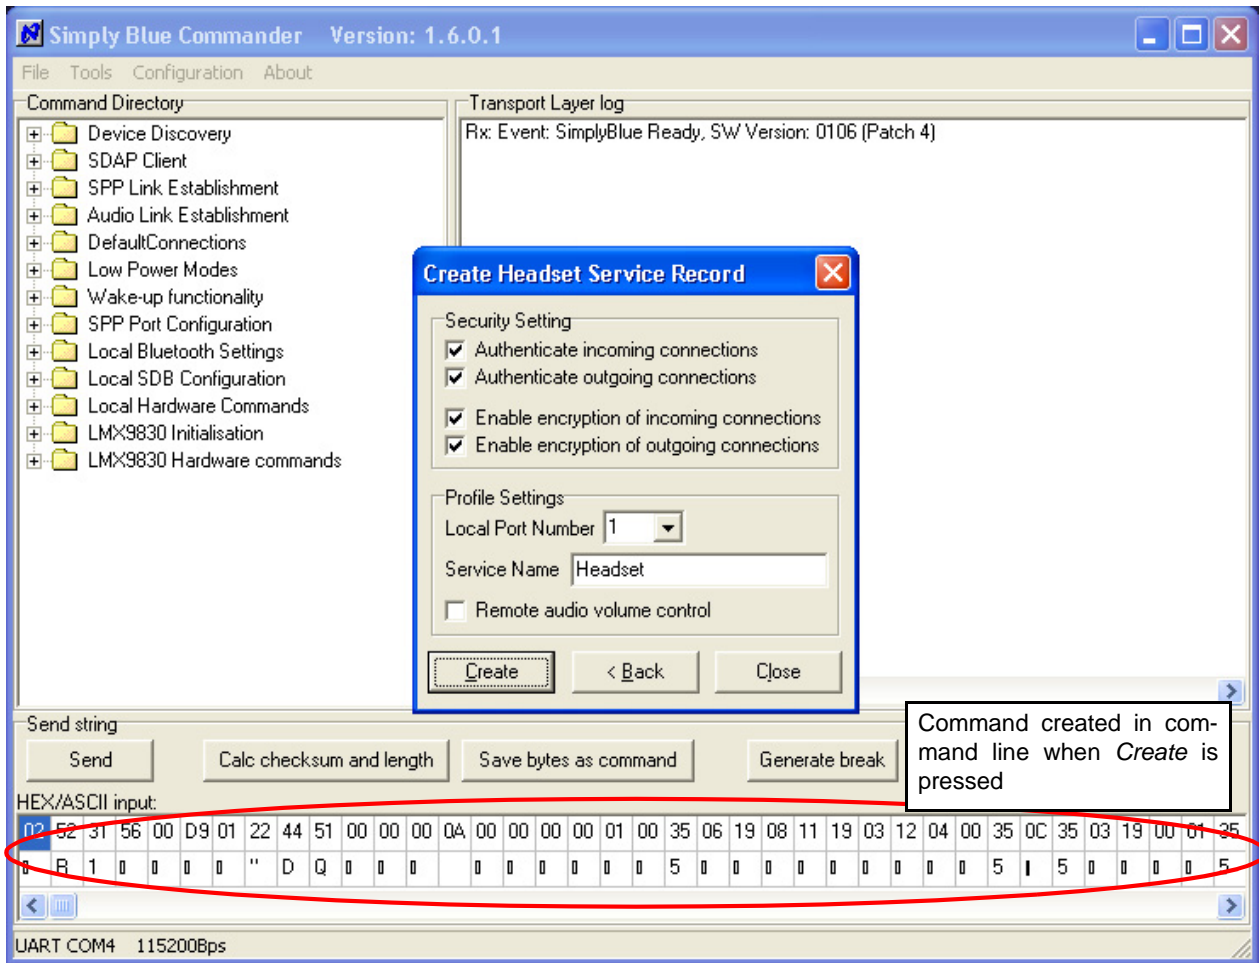

Figure 5-3. Store Headset SDP record command created
- 3) A set of option specific to this profile can be enable/disable. Select the profile settings and the security settings desired and press *Create*. At this stage, the Simply Blue Commander creates the command in the command line (See red indication on Figure 5-3). The message generated can either be sent to the module or stored in the dir file. Press *close* to close the “service record” window. See Figure 5-3 “Store Headset SDP record command created” on page 9.